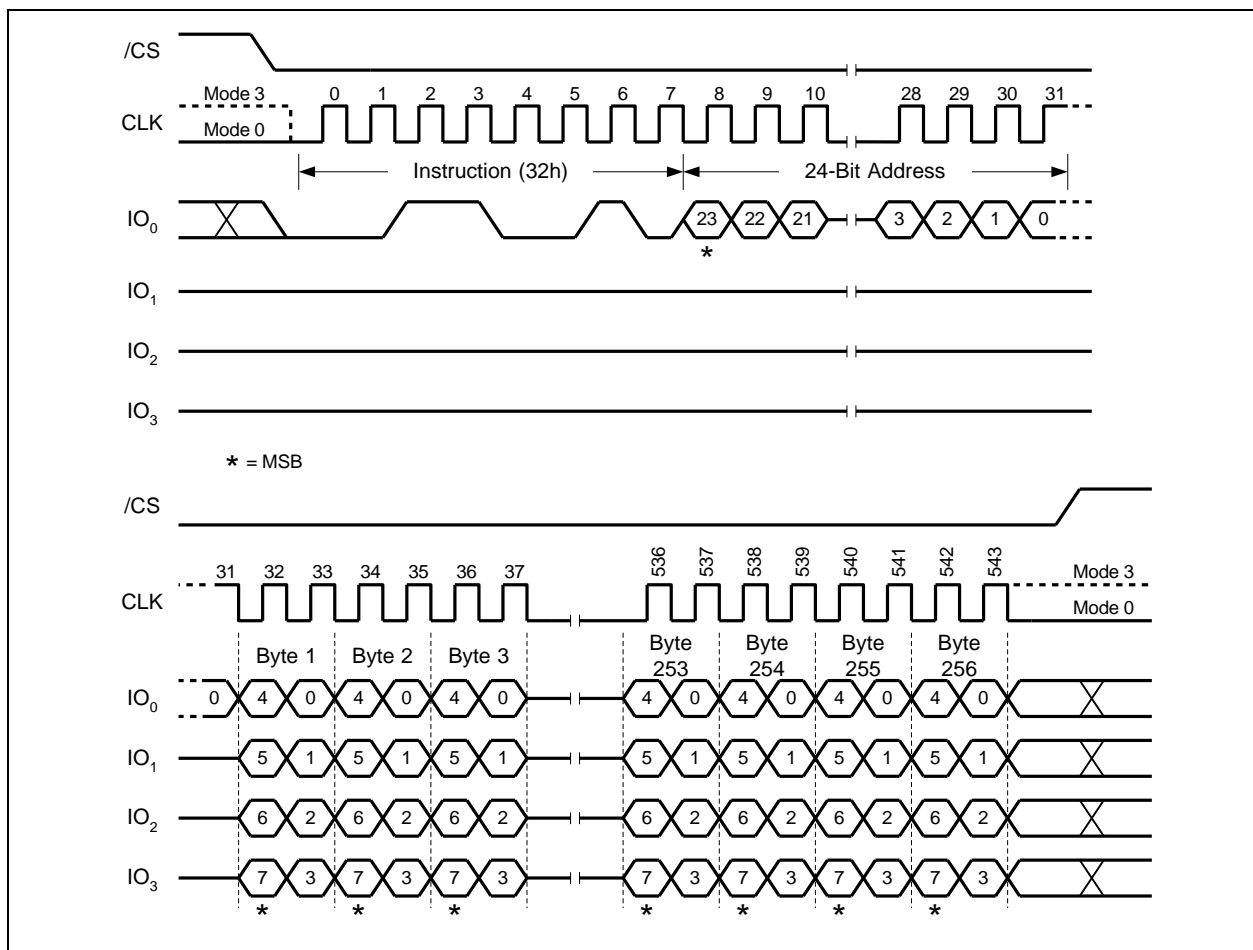

Figure 34. Quad Input Page Program Instruction (SPI Mode only)
To use Quad Page Program the Quad Enable (QE) bit in Status Register-2 must be set to 1. A Write Enable instruction must be executed before the device will accept the Quad Page Program instruction (Status Register-1, WEL=1). The instruction is initiated by driving the /CS pin low then shifting the instruction code “32h” followed by a 24/32-bit address (A23/A31-A0) and at least one data byte, into the IO pins. The /CS pin must be held low for the entire length of the instruction while data is being sent to the device. All other functions of Quad Page Program are identical to standard Page Program. The Quad Page Program instruction sequence is shown in Figure 34.